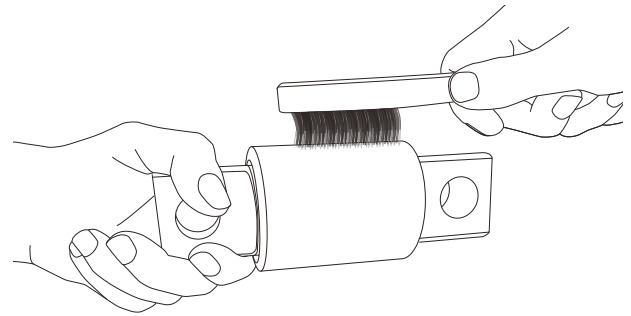
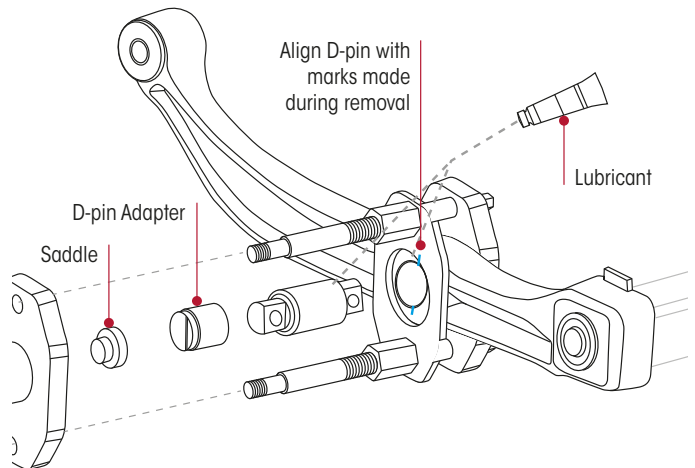

Figure 72: Lubricate D-Pin Bush
Figure 73: Lubricate Arm, Insert & Align Saddle & D-Pin
1. Clean and lubricate the entire surface of the inside diameter of the support arm and D-pin outer metal sleeve with chassis grease. Refer Figure 72 and Figure 73.